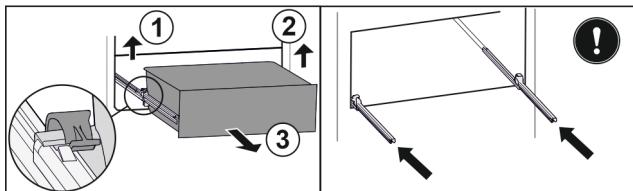

Fig. 154
- ▶ Lift left clamp and simultaneously pull drawer forwards on the left. Fig. 154 (1)
- ▶ Lift right clamp and simultaneously pull drawer forwards on the right. Fig. 154 (2)
- ▶ Remove drawer to the front. Fig. 154 (3)